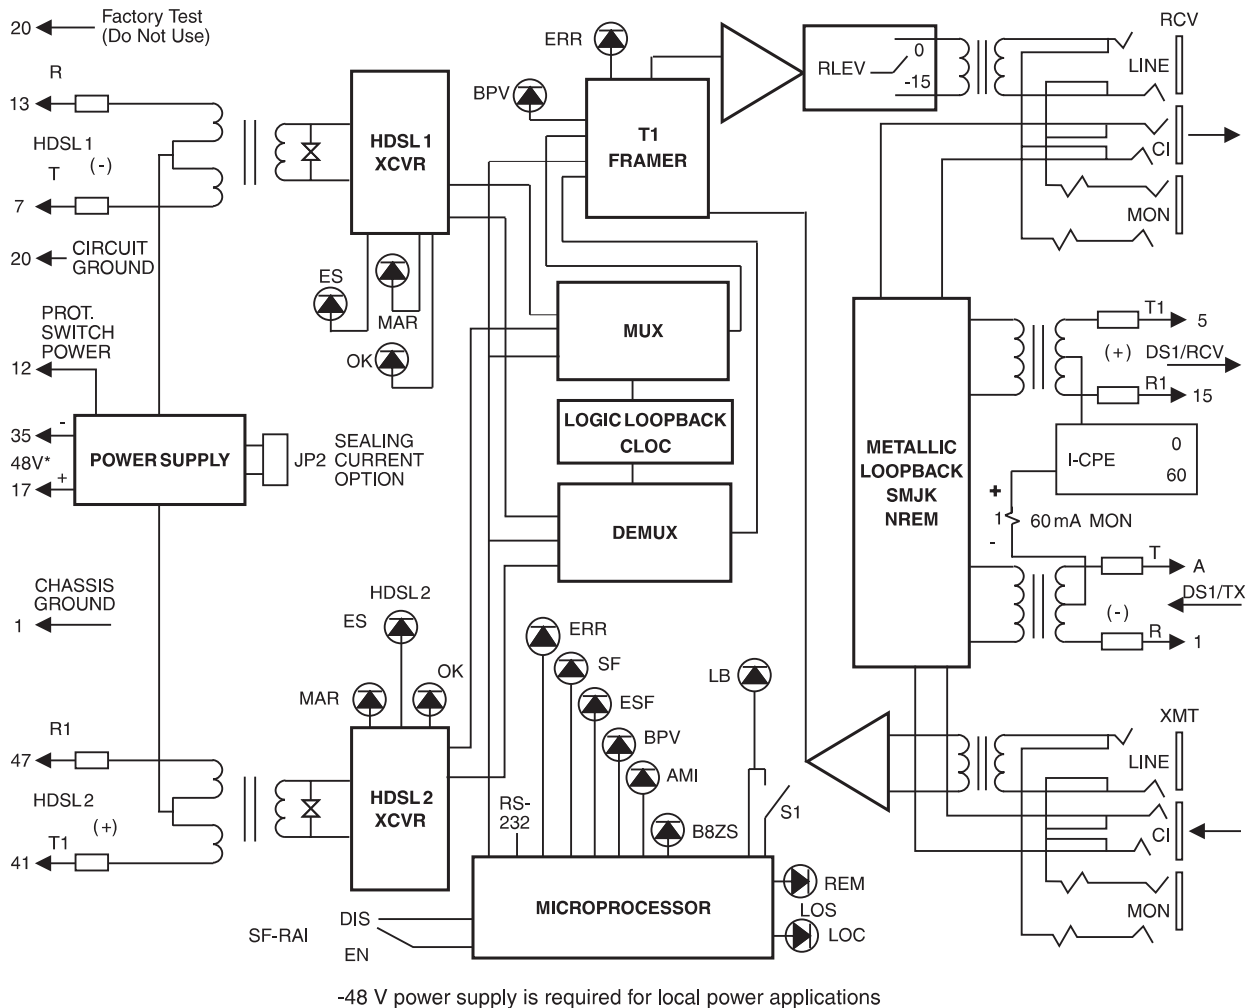

Figure 3. HRU-412 List 9 Block Diagram
RCV and XMT Access Jacks	Splitting and monitor access jacks to the CPE DS1 interface. See Figure 3 for circuit details. These jacks are transformer-isolated from the CPE DS1 metallic interface: CI: Customer Interface, LINE: Line Interface, MON: Monitor Interface
- 3.1** HiGain utilizes 2B1Q HDSL transceiver systems to establish two full-duplex 784 kbps data channels between the HLU and a remotely-mounted HRU-412. This provides a total capacity of 1.568 Mbps between the two units. A block diagram of the HRU-412 is shown in Figure 3.